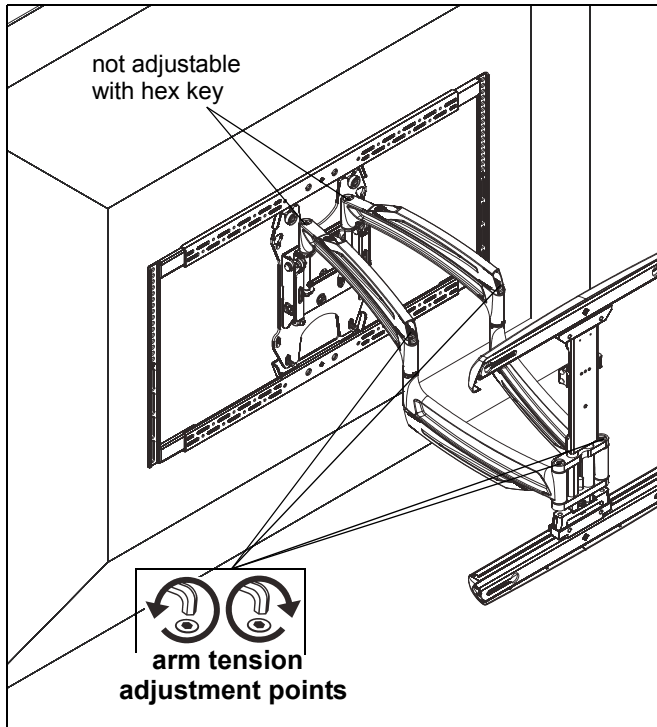

Figure 25
1. Use 1/4" hex key (AA) to adjust arm tension at any of the four arm tension adjustment points. (See Figure 25)